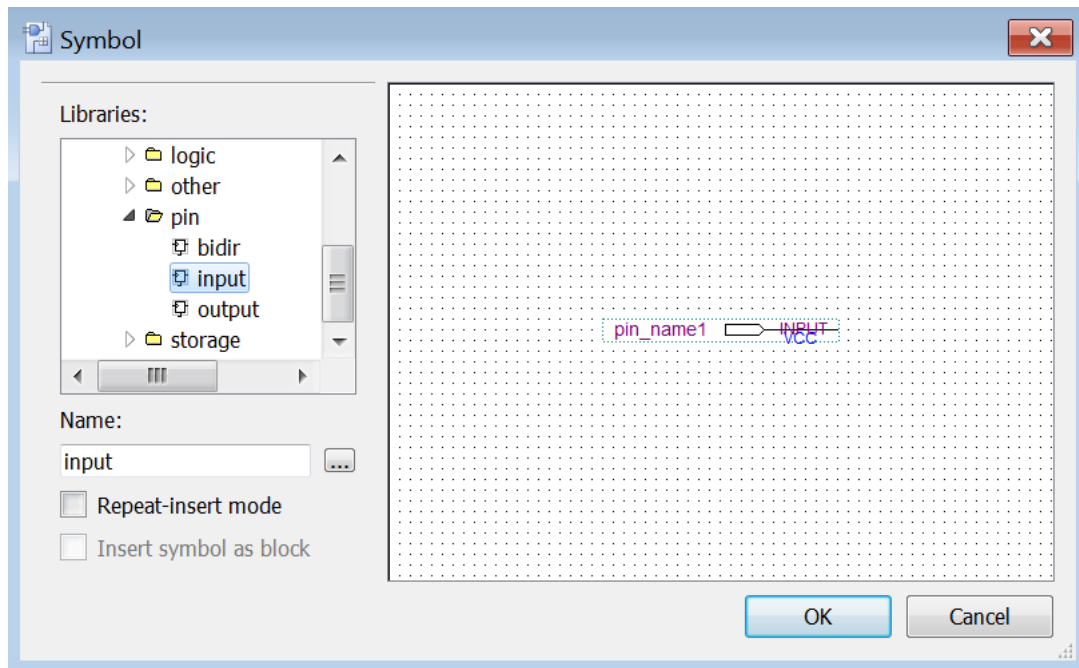

Figure 3-16 Input pin symbol
- b. Under Libraries, libraries > primitives > pin > input. See **Figure 3-16**